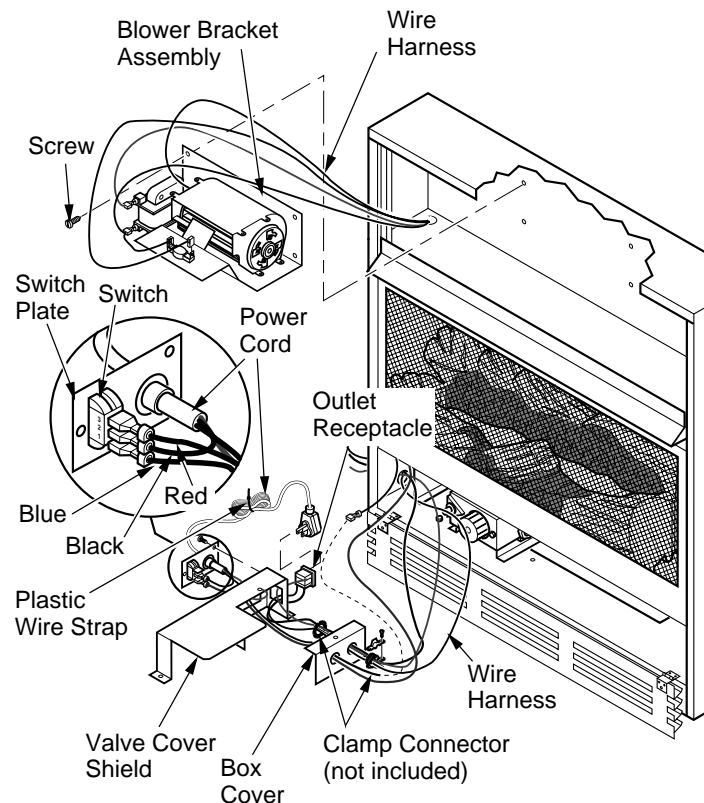

Figure 27 - Installing Blower Bracket Assembly
- Plug power cord to the outlet receptacle (not provided) as shown in Figure 27. Wind the extra cable in power cord and tie it up with the plastic wire strap (see Figure 27). Set the cable bundle between the burner bracket and outer casing, away from the burner.